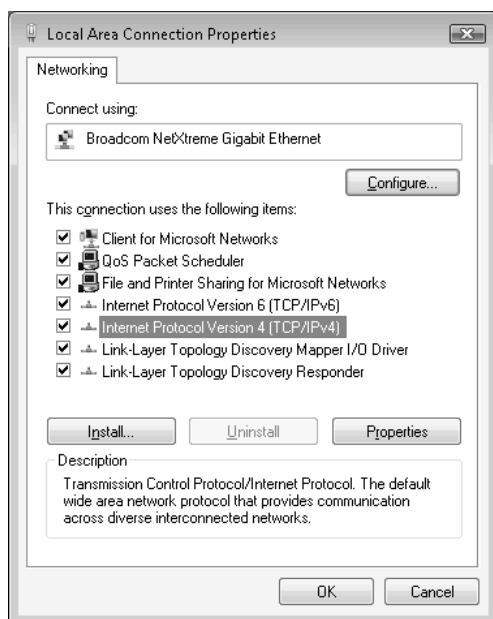

Figure 27 Local Area Connection Properties
- 3 In the 'Local Area Connection Properties' dialog (see Figure 27) click **Configure...** to make sure the device is working properly.